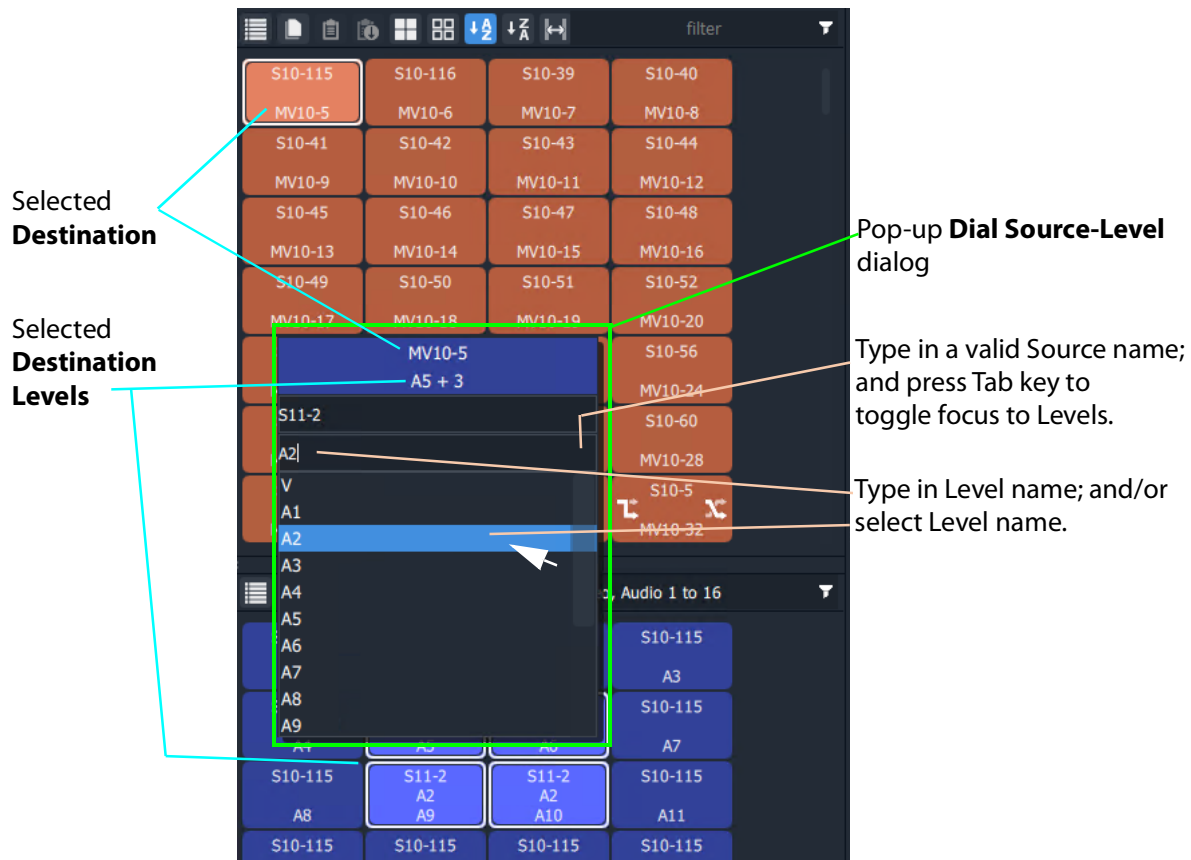

Fig. 11-24: Dial Source-Level Dialog
name and Level. (See Figure 11-24.)
- 6 When the required (and valid) Source name is in the upper text box of the dialog, press the Tab key. (See Figure 11-24.) This toggles focus from 'Sources' to 'Levels'; the filtered list changes to listing Levels.